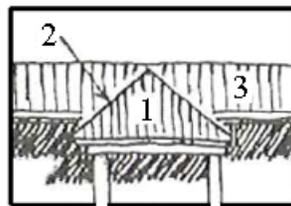

Figure 7
- Three or more roof slope planes per primary façade. See Figure 7.